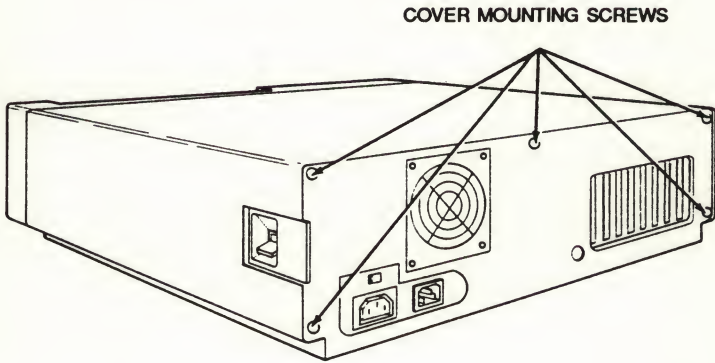

Figure 3-10 Cover Mounting Screws
2. Locate and remove the cover mounting screws as shown in Figure 3-10.